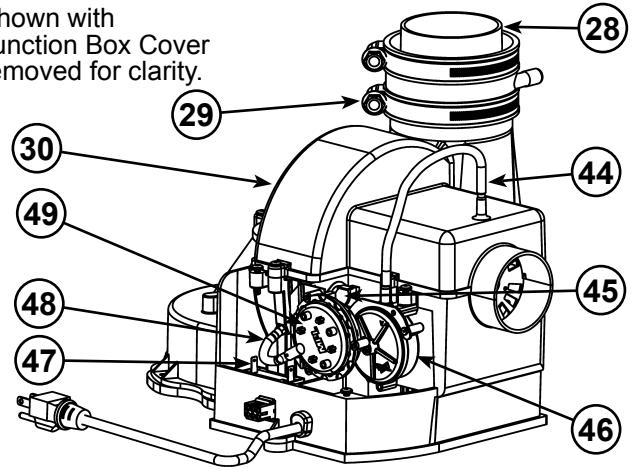

Figure 56
- 28 ****Rubber Coupling (see Figure 5) (see also **Figure 56**)
- 29 Gear Clamp (see Figure 5) (see also **Figure 56**)
- 30 ***Blower with Power Cord (see Figure 5) (see also **Figure 56**)
- 44 Air Tubing (Intake) (see Figure 5) (see also **Figure 56**)
- 45 Blower High Limit Switch (see Figure 5) (see Figure 56)
- 46 Intake Air Pressure Switch (NC) (inside box) (see Figure 5) (see also **Figure 56**)
- 47 Capacitor (see Figure 5) (see also **Figure 56**)
- 48 Air Tubing (Exhaust) (see Figure 5) (see also **Figure 56**)
- 49 Exhaust Air Pressure Switch (NO) (inside box) (see Figure 5) (see also **Figure 56**)